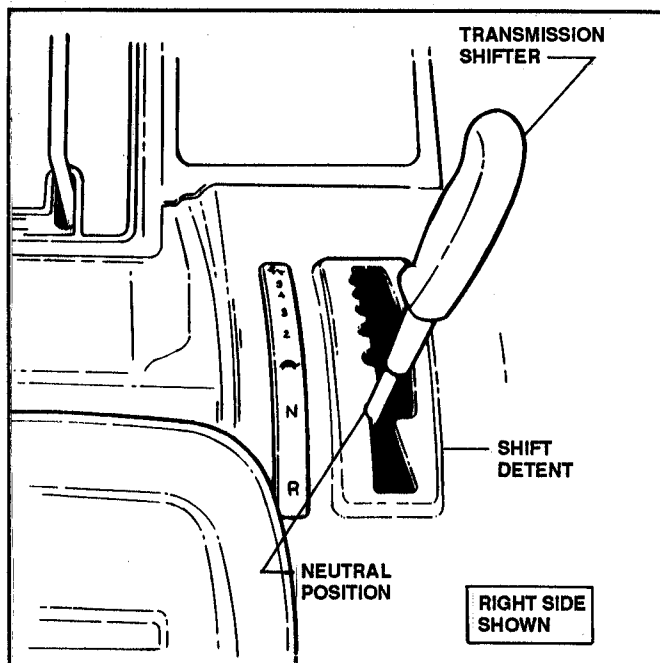

FIGURE 4.6
- Move slotted Shift Lever Adjuster until Transmission is in NEUTRAL position in Shifter Detent as shown in Figure 4.6.